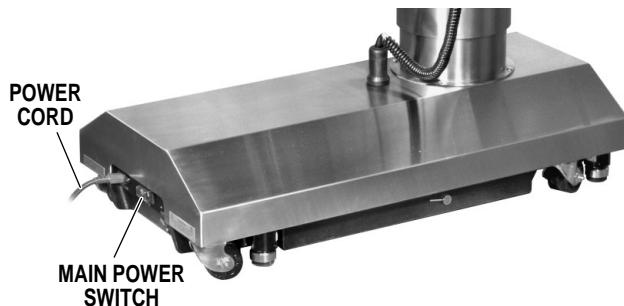

Figure 2-1. Main Power Switch
b. Depress "Main Power ON/OFF" switch on the electrical panel. See figure 2-1. The green POWER ON indicator light on the pendant control should now be illuminated.